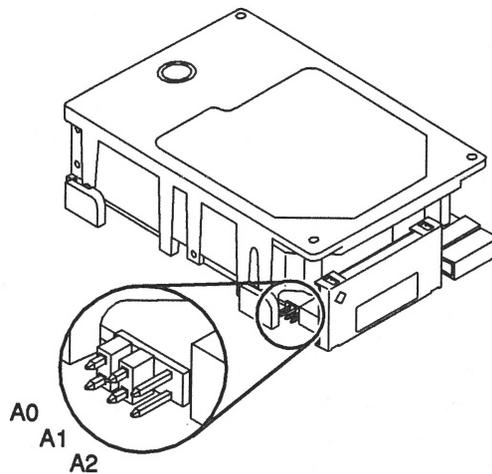

Figure 5-5 Address Jumper Settings
2. **Compare the disk drive device address jumper settings to the settings shown in Figure 5-5.**
If the device address jumper settings are the same as in Figure 5-5, leave them as they are.